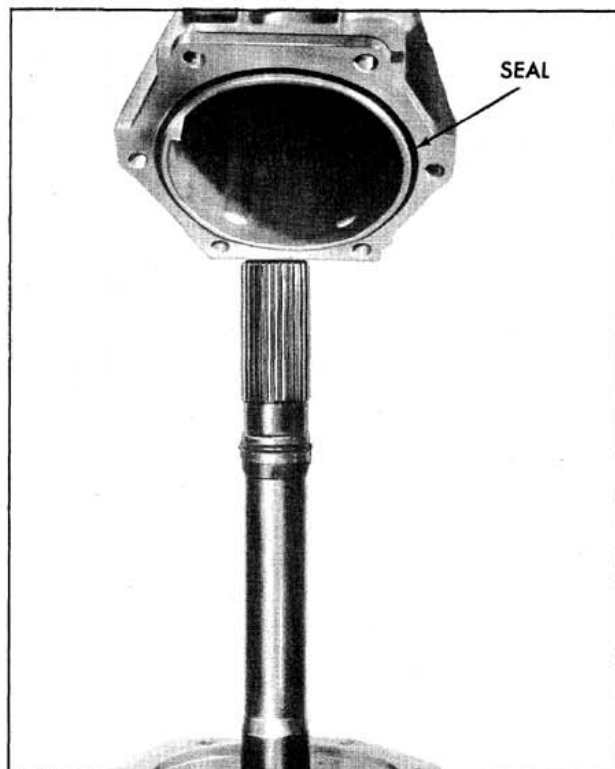

Fig. 6-53 Removing Extension Housing and Seal
3. Remove the extension housing and extension housing to case seal. (Fig. 6-53)